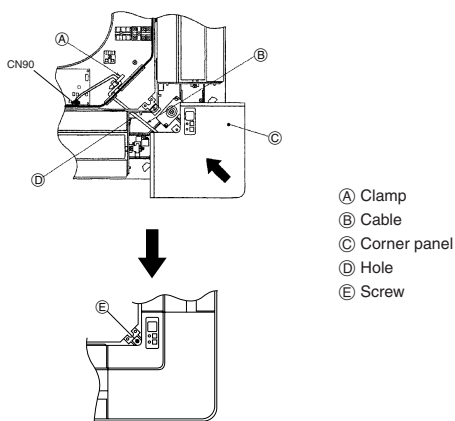

Fig. 9-10
9.6. Installing the wireless sensor (Fig. 9-10)